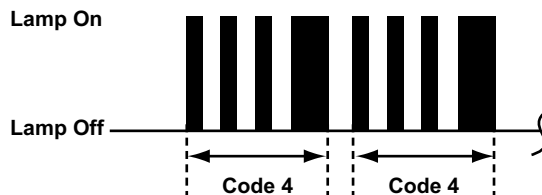

Figure 7-18 ABS diagnostic code pulse
- ABS codes, see Figure 7-18
Geo ABS codes flash in a straight count with one long flash at the end (Figure 7-18). The code repeats, only one code is stored.